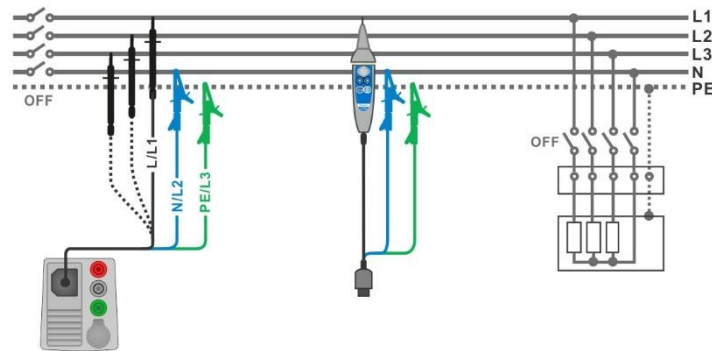

Figure 7.12: Connection of 3-wire test lead and Tip commander
- ▶ Connect test leads to object under test (see *Figure 7.12*).